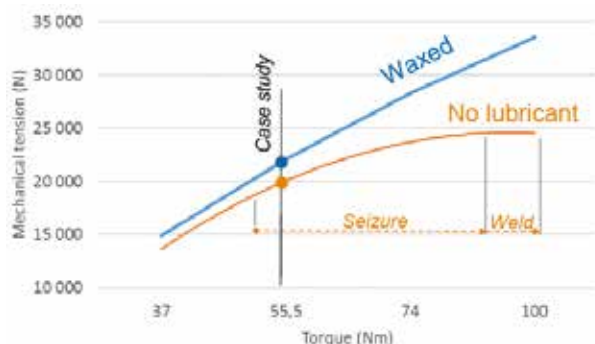

Figure 9
Conventional connectors are mostly supplied with bolts without any lubricant. The seizure effect of stainless steel bolts is well known. Under high torque, the pressure in the thread (hertz) is such that the friction coefficient becomes very high, inducing a "cold weldment" phenomenon into the fillet. The expected mechanical tension on the bolts is not achieved. Figure 9 graphs the relationship between the applied torque "T" (Nm) and the measured mechanical tensile force "F" in the bolt (N). It shows the benefit of the wax which provides a linear relationship between the torque and the tensile force. In the meantime non-lubricated bolts show fillet seizure from around 50 Nm until the curve becomes flat due to cold weldment of the bolted assembly.
For our case study we will consider the torque value of 55 Nm which is the maximum applicable torque to a non lubricated M10 bolt as seizure effect appears around this value (Figure 9).